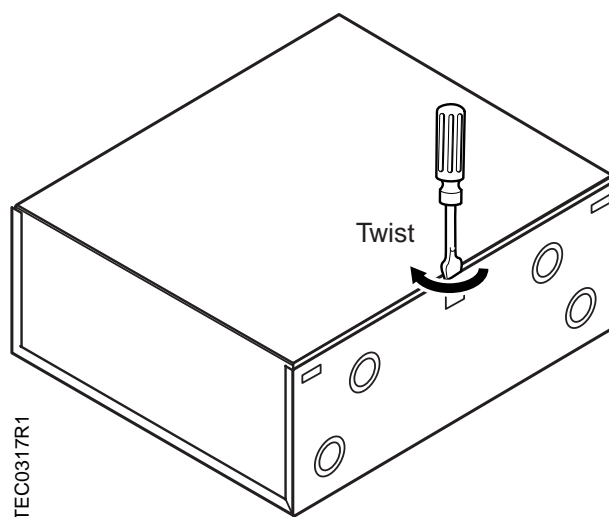

Figure 5. Enclosure 550-002 — First Step of Removing Cover (do both sides).
**NOTE:** Enclosure 540-155 has cover screws that should be loosened but not removed. Enclosure 550-002 has no cover screws; see Figure 5 for tip on removing cover.